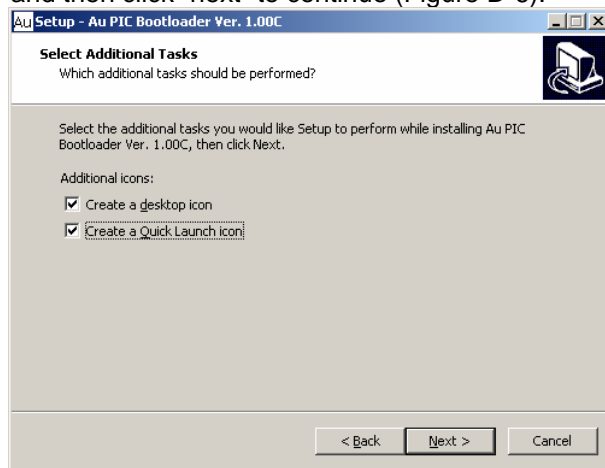

Figure D-6
- “Select Additional Task” window shows up, check both “create a desktop icon” and “Create a quick launch icon”, and then click “next” to continue (Figure D-6).